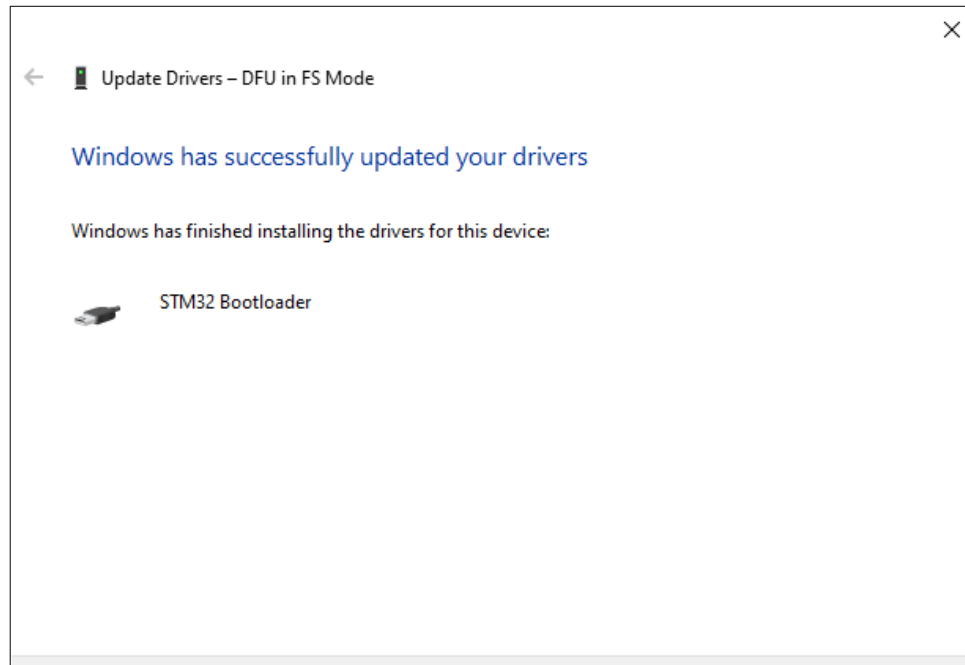

Figure 20: The STM32 Bootloader driver has been installed successfully.
- 5 The driver should now be installed successfully (see Fig. 20).